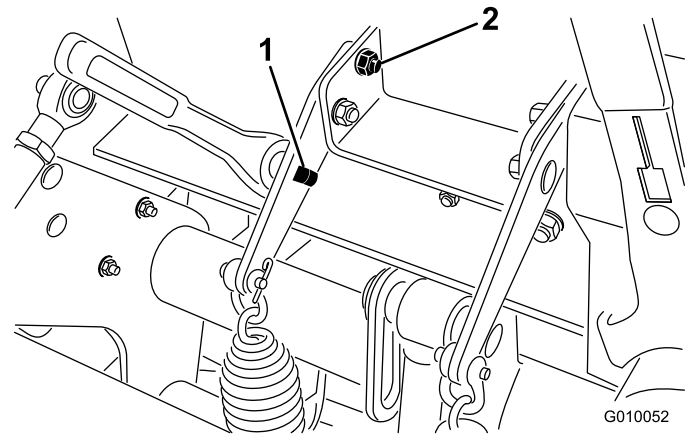

Figure 38
2. Insert a 1/2 inch ratchet or breaker bar into the square hole in the spring plate (Figure 38).